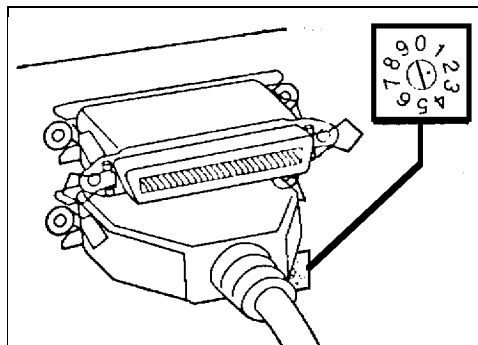

Figure 2-21. SCSI ID Switch on CI-5000 Film Recorder
3. Reset SCSI address to 2 with the small rotary switch on the back of the CI-5000 (Figure 2-21).